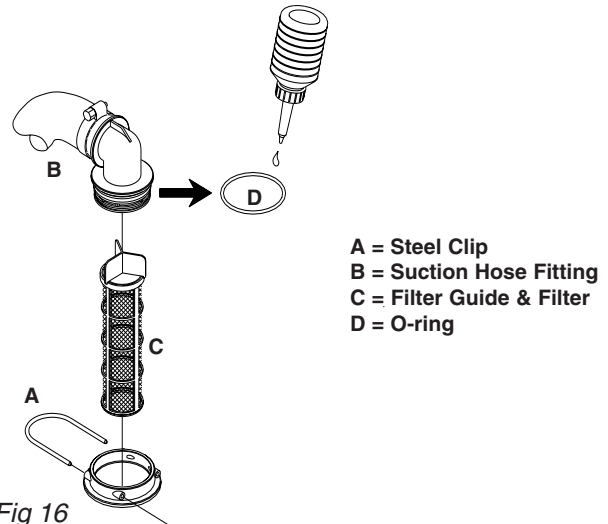

Fig 16
- 1 Pull the steel clip (**A** Fig 16) out.
- 2 Lift suction hose fitting (**B** Fig 16) from the housing.
- 3 The filter guide and filter (**C** Fig 16) can now be removed.
- 3 Ensure the O-ring (**D** Fig 16) on the hose fitting is in good condition and lubricated.
- 4 Refit suction hose (**B** Fig 16) and steel clip (**A** Fig 16).